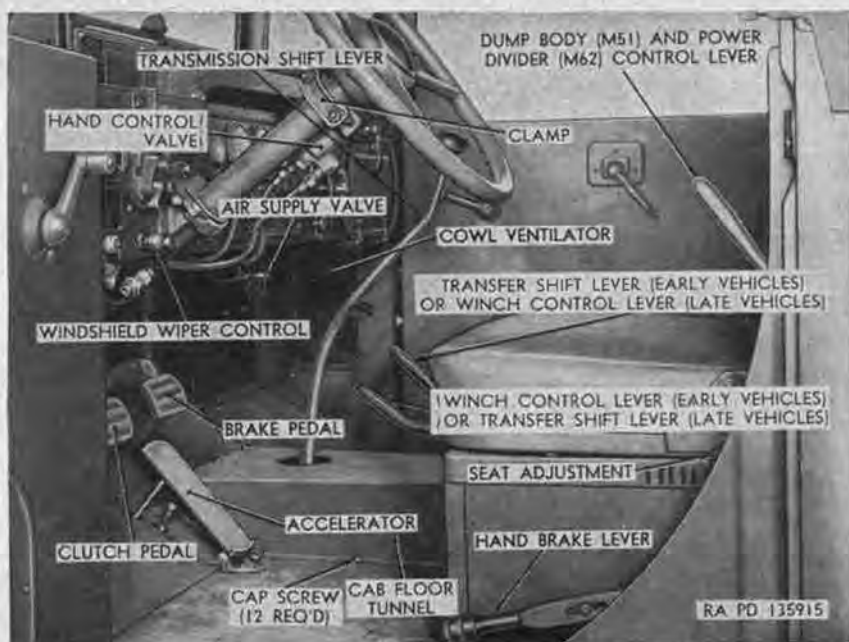

Figure 67. Driver's compartment—left side view.
The windshield wiper control (fig. 67) for the air-operated windshield wipers, is located on the instrument panel to the driver's left. The control button is rotated counterclockwise to start the wipers and clockwise to stop the wipers. Each windshield wiper (A, fig. 65) mounted at the top of the windshield frame, is provided with a lever for manual operation of the wiper blade.
The clutch pedal (fig. 67) is located on the floor of the operator's compartment and is manipulated by the driver's left foot. The pedal is depressed to disengage the clutch to permit shifting of the transmission gears. A return spring in the clutch pedal linkage and springs inside the clutch assembly cause the clutch to return to the fully engaged position whenever the driver's foot is removed from the pedal.
The brake pedal (fig. 67) is located on the floor of the operator's compartment to the right of the clutch pedal and is manipulated by the driver's right foot. The pedal is depressed to apply the air-assisted hydraulic brakes. Return springs fastened to the brakeshoe and to the brake pedal linkage cause the brakes to be fully released whenever the driver's foot is removed from the pedal.
The handbrake lever (fig. 67), located to the left of the driver's seat, is manipulated by the driver's left hand. The lever is pulled up to apply the handbrake and pushed down to release the handbrake.
The dump body control lever or power divider control lever (fig. 67) is located to the left of the driver's seat. Shifting instructions for this lever when used to control the dump body hoist on dump truck (M51) are shown on the dump body control data plate (fig. 64) mounted on the instrument panel (N, fig. 65). Shifting instructions for this lever when used to control the power divider (par. 53a(3)) on medium wrecker truck (M62) (to operate the hydraulic crane or rear winch) are shown on the power divider control lever instruction plate (fig. 62) mounted on the instrument panel.
- (1) Make sure transmission gearshift lever and power-take-off shift lever (fig. 67) are in N (neutral) positions.
- (2) Pull out choke control knob. In warm weather, or when engine is warm, use sparingly.
- (3) Turn ignition switch lever clockwise to the ON position.
- (4) Depress clutch pedal to disengage clutch and hold pedal down while engine is started.
- (5) Step on starter button to start engine. Release as soon as engine starts.
- (6) If oil pressure gage does not show pressure within 30 seconds after engine starts, stop engine and investigate cause. The ammeter should show charge reading with all lights and accessories turned off. If ammeter does not show charge with engine running at fast idle, determine cause (par. 86).
- (7) Release clutch pedal.
- (8) Push choke control knob in to a point at which engine operates without misfiring. As engine warms up, push choke control knob all the way in.
- (9) Operate the engine through a short warmup period whenever conditions permit. This warmup period allows time for the driver to observe the ammeter, oil pressure, and temperature gages, and check performance of the engine before the vehicle is placed in motion. If engine coolant temperature stays below or quickly rises above normal operating temperature range (par. 31), stop engine and determine cause (par. 82).
a. General. The purpose and use of the transmission and transfer must be understood by the driver before any attempt is made to operate the truck. The truck cannot be moved until the transfer shift lever (fig. 67) is in the HIGH or LOW range (par. 27). Although shifting of the transmission for forward or reverse motion automatically shifts the transfer for forward or reverse motion, transfer gear ratios (high or low range) are selected independently of the transmission gear ratios. The transfer provides additional gear ratios for traversing difficult terrain.
- (1) Depress the clutch pedal and move the transfer shift lever to HIGH range. Release clutch pedal.
- (2) Depress clutch pedal and move the transmission gearshift lever (par. 26) to the "1" (first) speed forward position. Keep the clutch pedal depressed.
- (3) Release the handbrake (par. 25).
- (4) Depress accelerator pedal to increase engine speed slightly. Release clutch pedal slowly and further depress accelerator